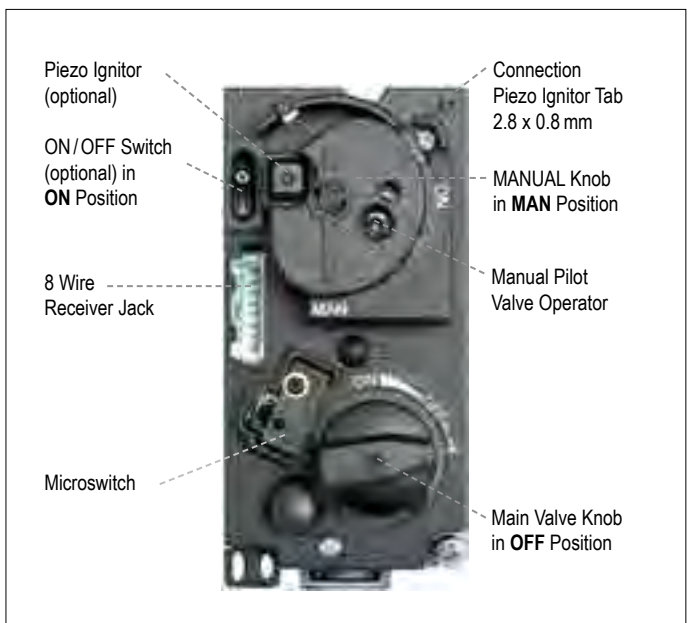

Figure 18: Combination control, cover
5. Wait five (5) minutes to clear out any gas. Verify that no gas is in the area around the appliance, including near the floor. **If you detect gas STOP! Follow "WHAT TO DO IF YOU SMELL GAS" in the safety information on page 2.** If no gas is present, proceed to step 6.
6. Place ON/OFF switch (if equipped) in **I** (ON) position.
8. Fully push down manual pilot valve operator and hold in, to start pilot gas flow (see figure 18, page 10).